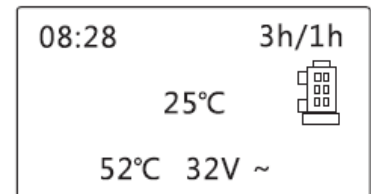

Figure 6-10
(3). Tate view: press and hold "  " button, original display chlorine production, now change to display controller internal temperature, operating voltage, liquid level detection, shown as figure 6-10. Note: the state view function is convenient for trouble shooting.